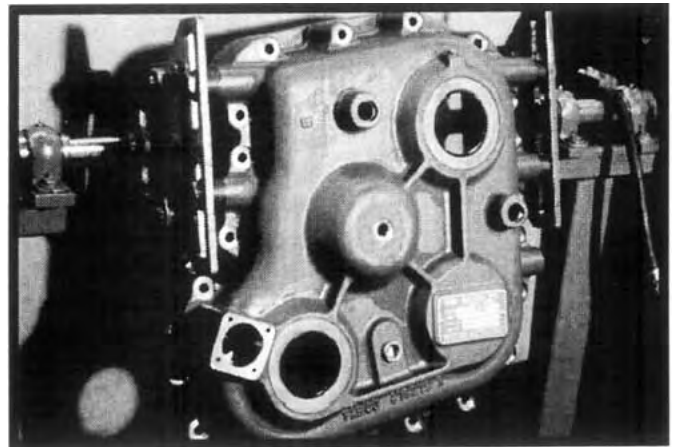

Figure 6.26
1. If removed install new expansion plugs into the two shift shaft bores in the front housing half. Use a non-hardening sealer to prevent an oil leak. See Figure 6.26
2. Install the input and the front output shaft oil seals in the front housing half. See Figure 6.26.